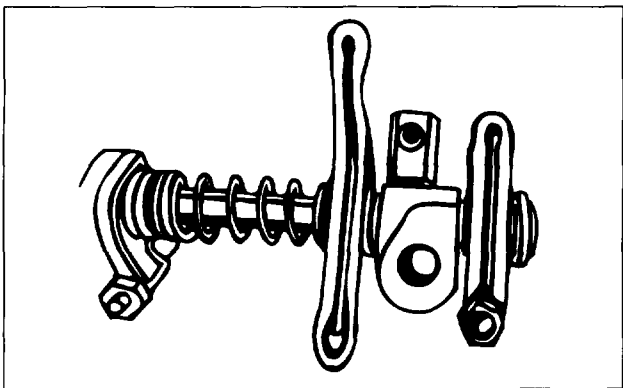

FIG. 9
9. Install the Jacobs oil supply fitting in the rear bracket as shown in Fig. 9. Turn all the way in until contact is made with the bracket. Back out the fitting until the hole is located vertically with respect to the bracket. Do not install rocker shafts at this time.